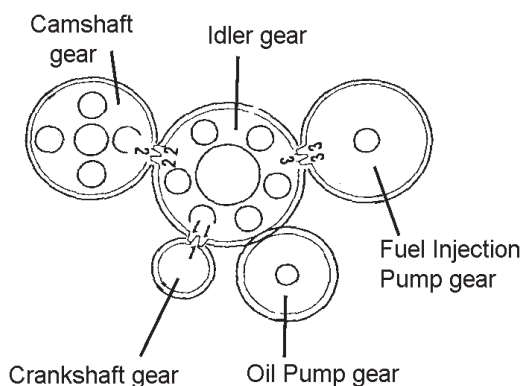

Figure 11: Timing Marks
- a. Install the fuel injection pump after having aligned its gear alignment mark with that of the idler gear alignment mark as shown in Figure 11 above. When the alignment marks of the timing gears align as in the diagram to the right, the No. 1 piston is top dead center in the compression stroke.